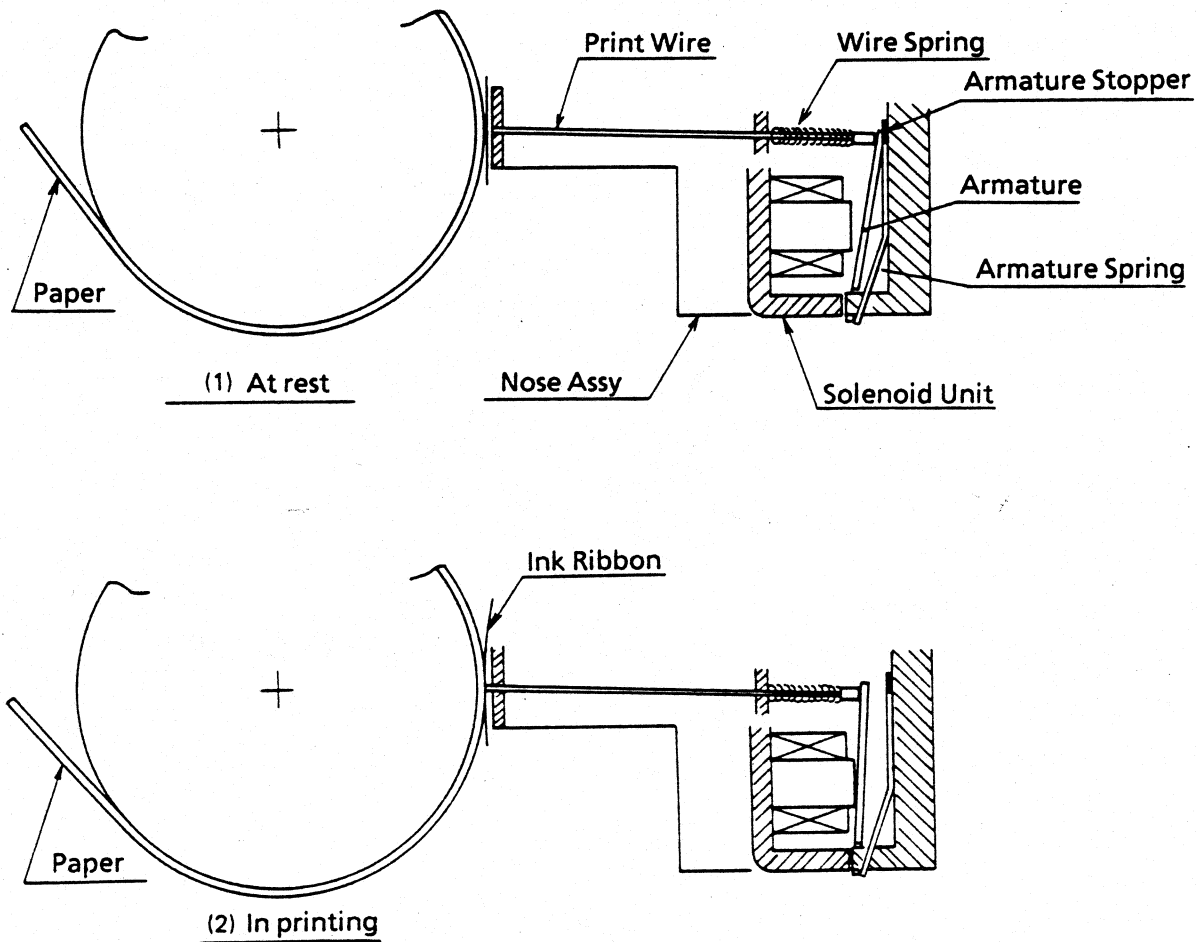

Fig. 2
(1) Operation of print head (See Fig.2)